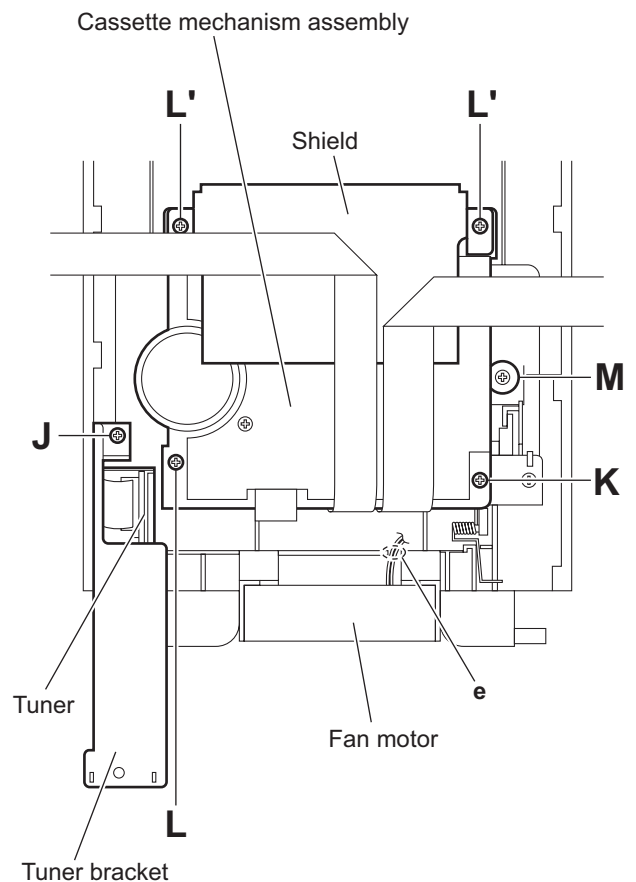

Fig.10
When attaching the fan motor, pass the wire through the slot **e**. (See Fig.10.)
- (2) From the inside of the top cover assembly, remove the screw **J** attaching the tuner bracket. (See Fig.10.)
- (3) Take out the tuner with the tuner bracket.
- (4) Remove the tuner from the tuner bracket.
3.1.7 Removing the cassette mechanism assembly (See Fig.10)
- Remove the rear cover, side panels(L)/(R) and top cover assembly.